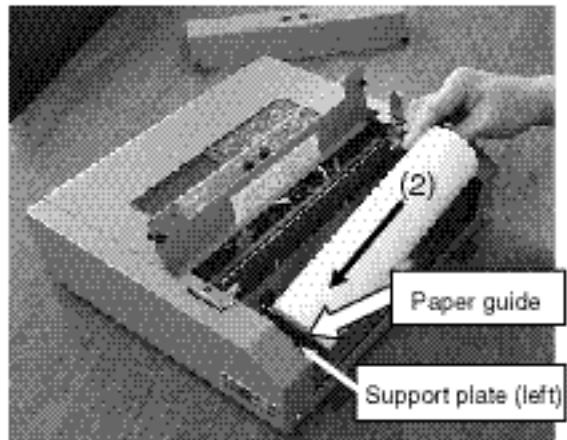

Figure 2
2. Set the roll paper to the holder by pressing the paper guide leftward. See Figure 2.